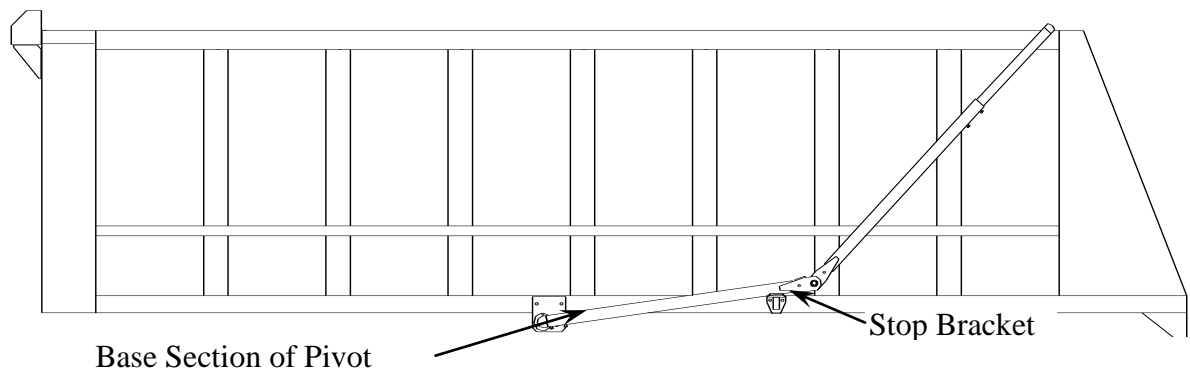

Figure 14
17. Rotate the base section (see **Figure 14**) high enough to allow the upper section to hang straight down. Rest the end of the upper section on the ground to hold the arms in place.
18. Install the stop brackets on the bottom side rail so that the base sections will land as shown in **Figure 14**. **Stop brackets must be mounted so that the lower section of the arm is nearly horizontal** to the ground when the arm is extended. If the pivot does not have a sufficient "dog leg" bend, it will not function properly.
19. Rotate the upper section toward the rear of the trailer so that the base sections rest on the stop brackets (see **Figure 14**).